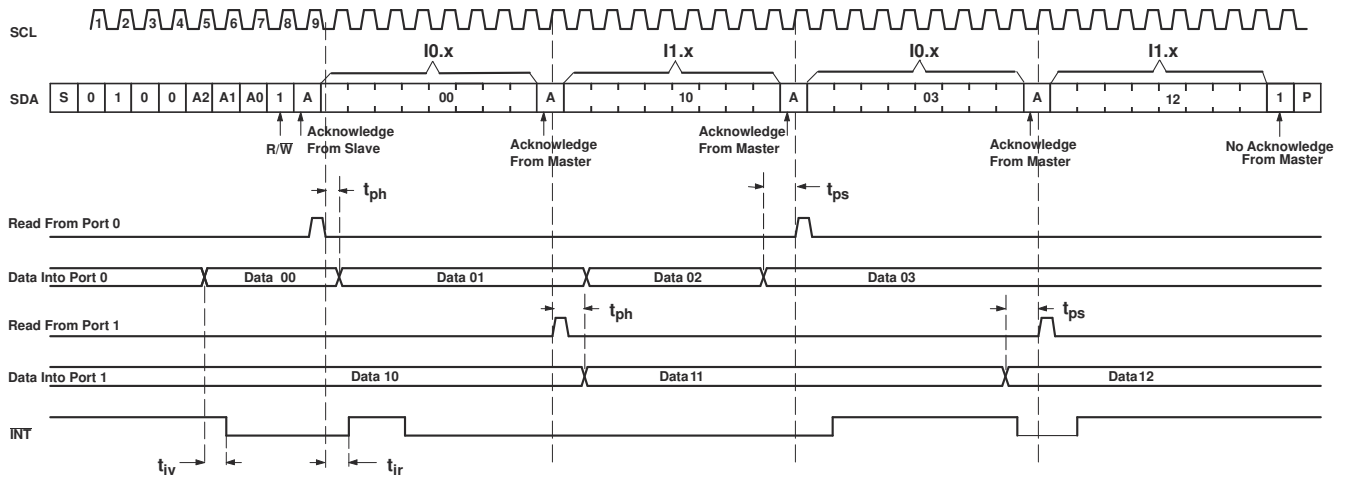

**Figure 8-10. Read From Register**
The bus master first must send the PCA9535 address with the least-significant bit set to a logic 0 (see Figure 8-6 for device address). The command byte is sent after the address and determines which register is accessed. After a restart, the device address is sent again, but this time, the least-significant bit is set to a logic 1. Data from the register defined by the command byte then is sent by the PCA9535 (see Figure 8-10 through Figure 8-12).
- B. This figure eliminates the command byte transfer, a restart, and slave address call between the initial slave address call and actual data transfer from P port (see Figure 8-10 for these details).
- This figure eliminates the command byte transfer, a restart, and slave address call between the initial slave address call and actual data transfer from P port (see Figure 8-10 for these details).